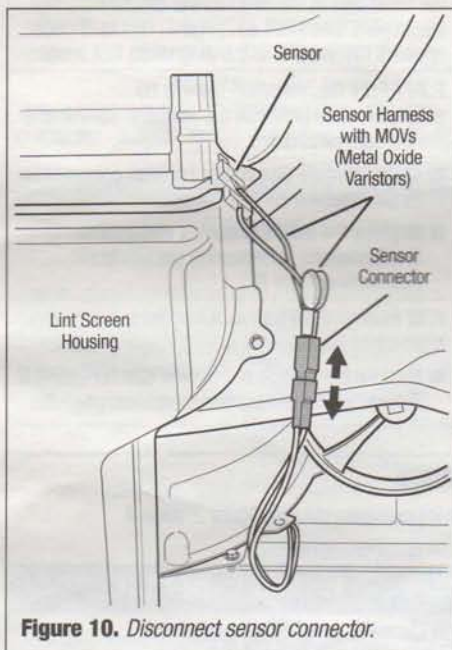

Figure 10. Disconnect sensor connector.
4. Access the moisture sensor wires by removing the front panel. See Removing the Front Panel/Drum Assembly, page 8. Disconnect the sensor connector. See figure 10.
7. Disconnect the moisture sensor connections. See figure 10, page 7.